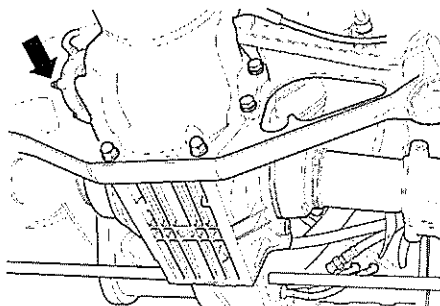

Fig 4 Pneumatic differential lock actuator
- 4.22 Unscrew nuts fastening pneumatic differential lock actuator (see Fig 4).